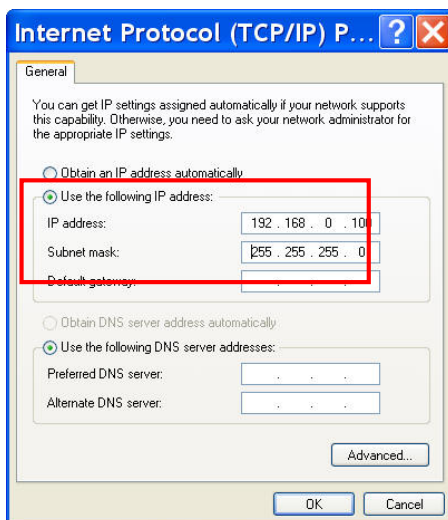

Figure 103: Internet Protocol Window
6. Select the option, *Use the following IP address* (see Figure 103).